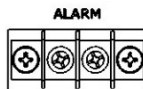

Figure 2-14. Converter Alarm Output Connector
- Connect the input leads of your alarm-sensing device (e.g. datalogger) to the center two pins of the alarm output connector (Figure 2-14).